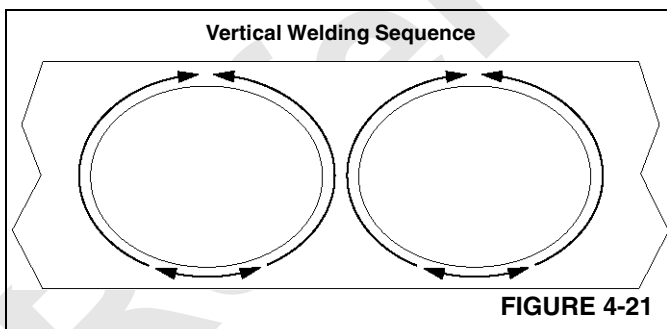

FIGURE 4-21
- b. Use the following sequence for vertical welding. The weld pass shall start at the 6:00 O'clock position and end at the 12:00 O'clock position (Figure 4-21).